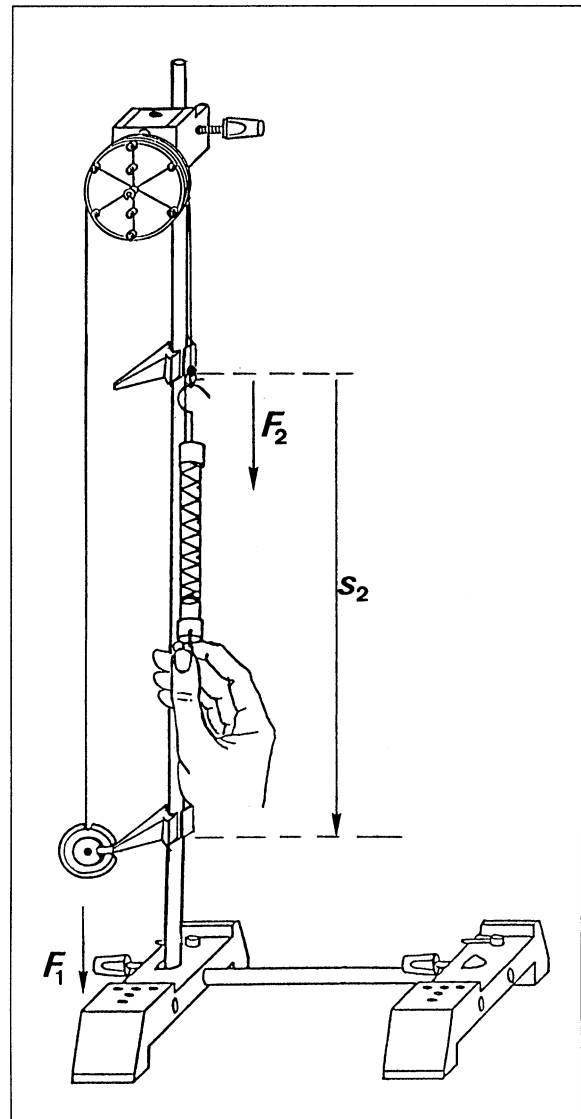

Fig. 1 Experimental setup: fixed pulley
1. Assemble the stand bases, stand rods and sleeve as shown in fig. 1.
10. As illustrated in fig. 1, position the lower pointer so that it is pointing at the centre of the weight and the upper pointer so that it is pointing at the knot of the loop to which the dynamometer is attached.